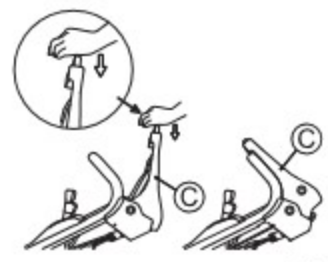

Fig. 5
3. Push Blade lever (C) forward while pressing its yellow button. (See Fig. 5) Then, the blade starts rotating.